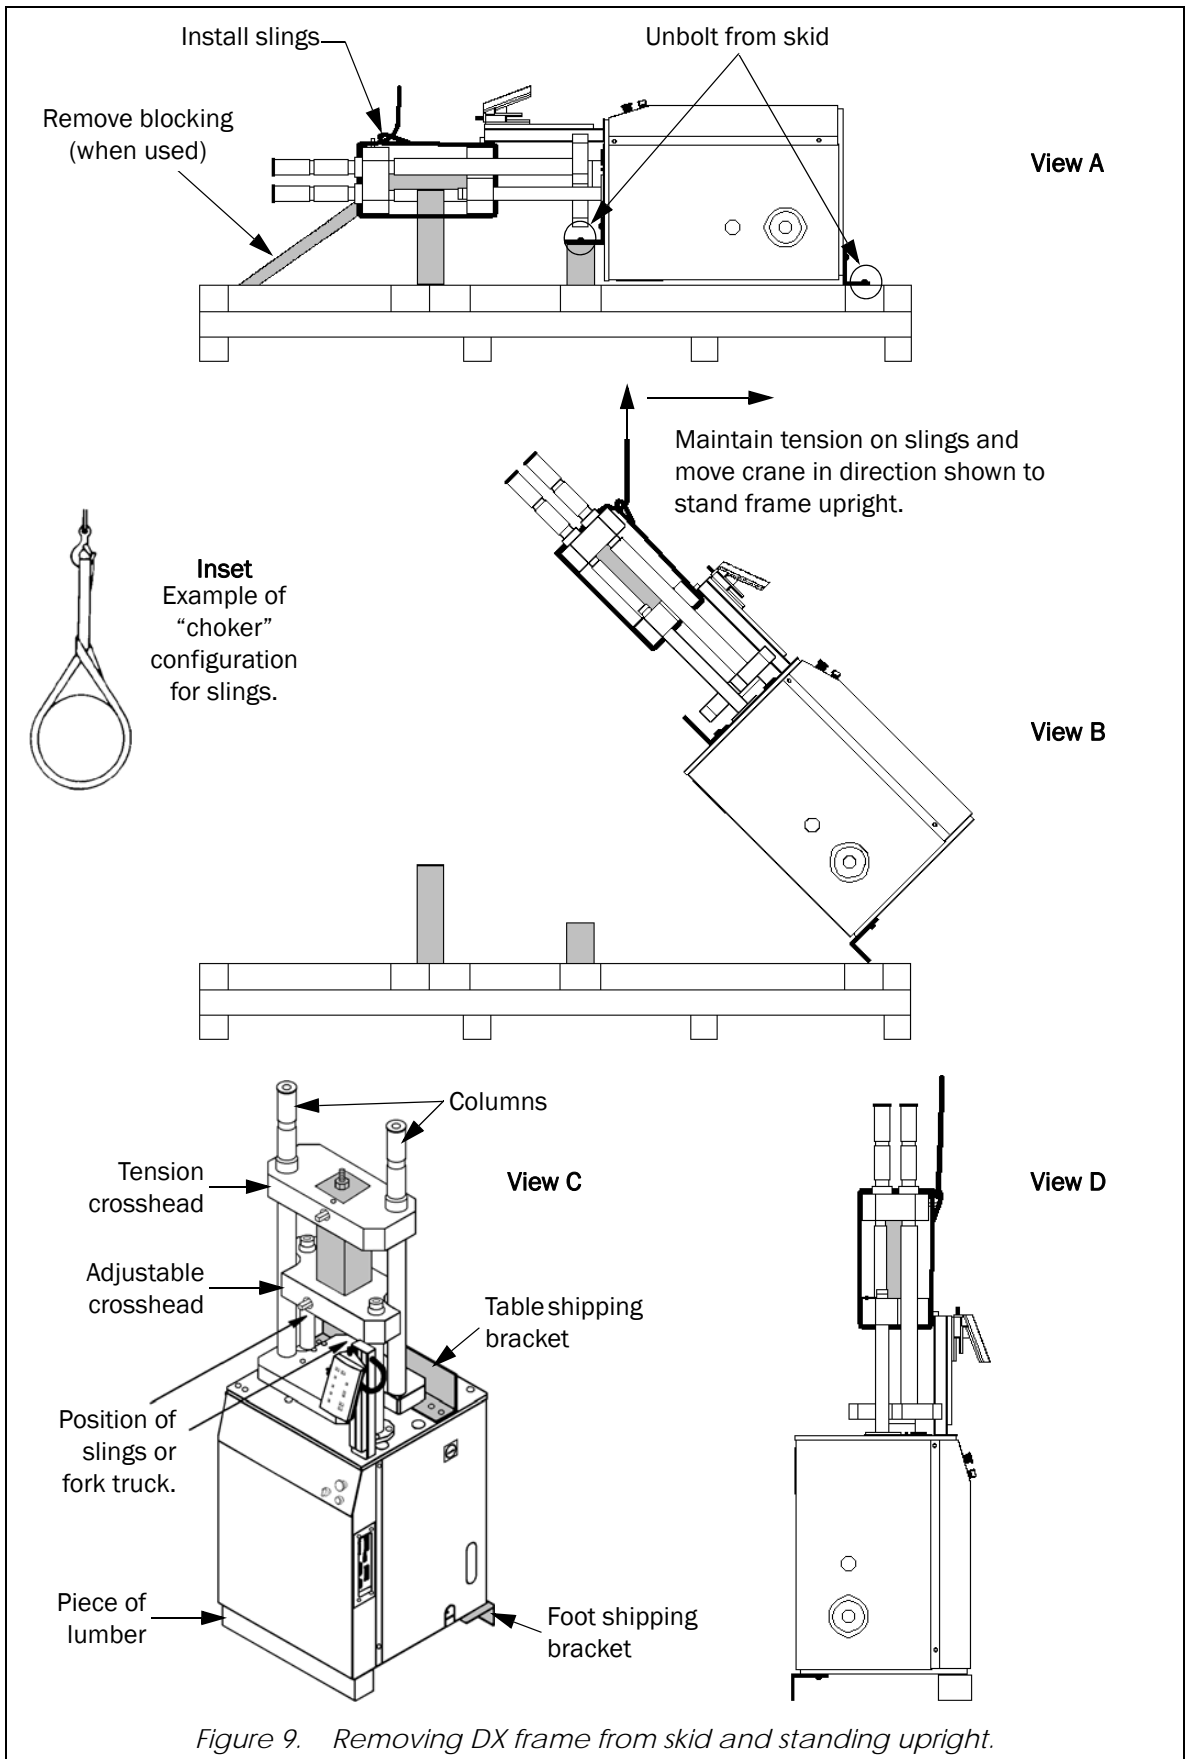

Figure 9. Removing DX frame from skid and standing upright.
- Additional shipping hardware is mounted to the frame to better secure it to the skid. All frames will have a foot shipping bracket and table shipping bracket (see **View C** of **Figure 9** on page 42). Once the frame is in place on the skid, these shipping brackets are secured to the skid or supported by blocking on the skid.
- a. **When using a crane:** Place the slings under the adjustable crosshead at the outermost position while staying within the columns (as shown in **View C** of **Figure 9** on page 42). Use protective material between the slings and crossheads. Attach the ends of each sling to the crane.
- b. **When using a fork truck:** Cover the forks with protective material. Place the forks under the adjustable crosshead at the outermost position while staying within the columns (as shown in **View C** of **Figure 9** on page 42).
2. Unbolt the foot shipping bracket and table shipping bracket from the skid (see **View A** of Figure 9 on page 42). Do not unbolt the foot shipping bracket from the frame. Be sure that the frame is not secured to the skid in any way.
3. Place two slings under and around both crossheads in a “choker” configuration (see the **Inset** and **View B** of Figure 9 on page 42). Be sure that each sling is at its outermost position while staying within the columns. Be sure to use protective material between the slings and crossheads. Attach the end of each sling to the crane.
4. Using the crane, **SLOWLY** lift the frame upright. It will be necessary to move the position of the crane as the frame comes upright. Move the crane slowly so as to remain **in control** of the frame. Be sure to maintain tension in the slings. See **View B** of Figure 9 on page 42.
- b. Lower the frame to the floor so that the front of the frame is resting on the lumber and the foot shipping bracket is resting on the floor. Be sure that the piece of lumber is properly positioned to fully support the frame under both mounting feet. See **View C** and **View D** of Figure 9 on page 42.
- b. **When using a fork truck:** Remove the slings from the frame. Cover the forks with protective material. Place the forks under the adjustable crosshead at the outermost position while staying within the columns. See **View C** of Figure 9 on page 42.